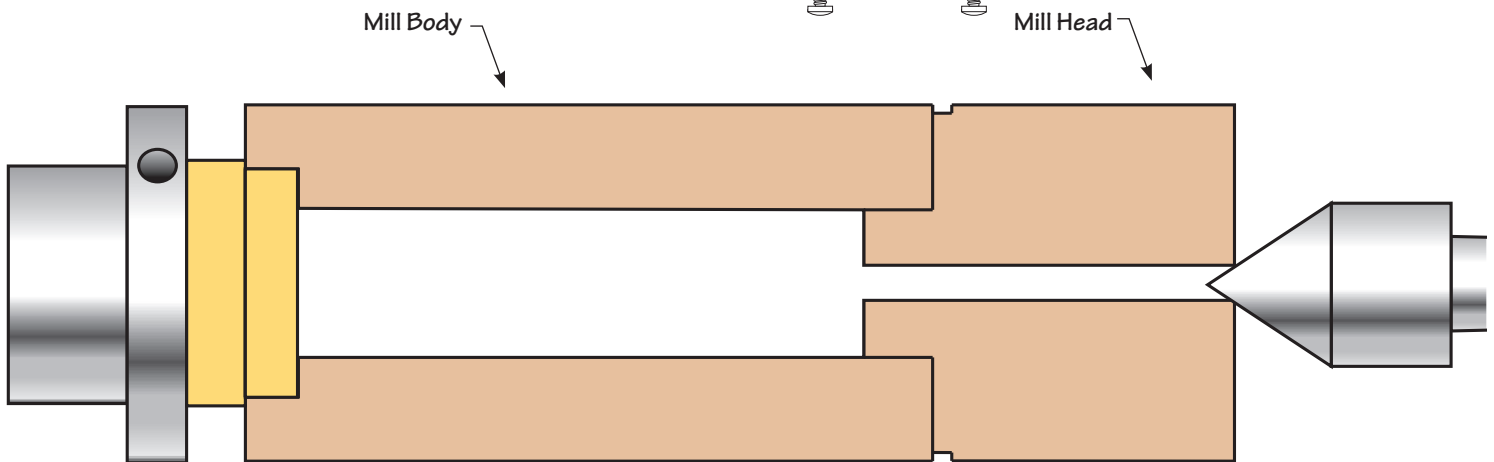

Figure. 3
3. Put the Mill Head spigot into the Mill Body and mount the Mill onto the drive tenon and bring the revolving center into the 9/32" dia. hole for support. (See Figure 3.)